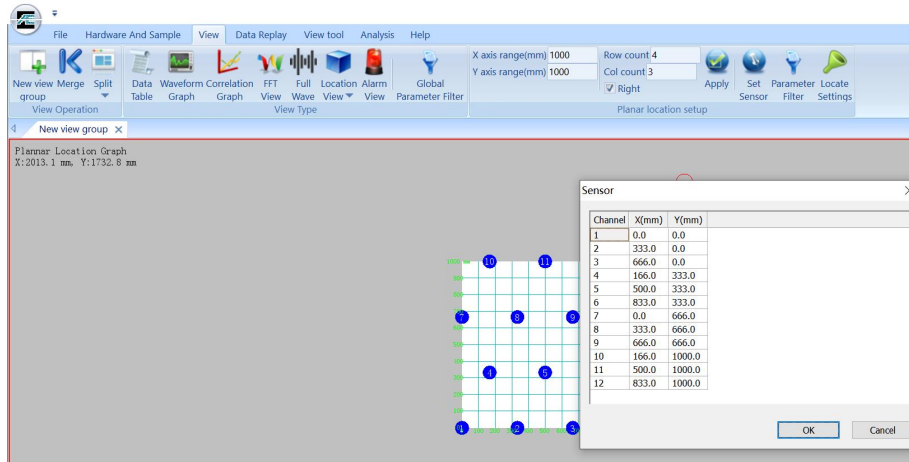

Fig. 6-63 View coordinate modification of Planar Location Graph
- a. First, confirm the the X-axis and Y-axis coordinates of all sensors relative to Sensor #1, and then after the simple modification, click the **[Set sensor]** button to pop up the dialog box as shown in Figure 6-63.